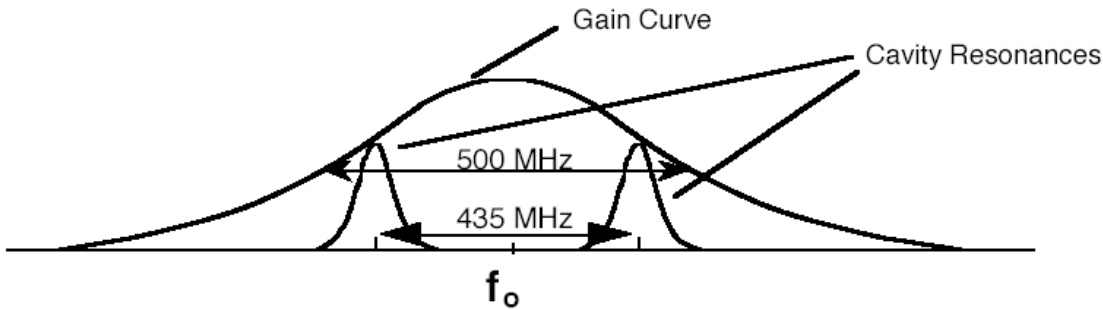

Fig. 1
- Two Lorentzian-shape laser lines with very narrow line widths and with center frequencies separated by $c/2L = 435$ MHz drift through a Doppler-broadened gain line with $\text{FWHM} = 2\Delta\nu_L = 500$ MHz. See Fig. 1 below. What do you expect the fringe visibility function to be when the two lines are symmetrical about f_0 , and as they drift away from this condition? (Look at Table I for coherence lengths of typical sources.)